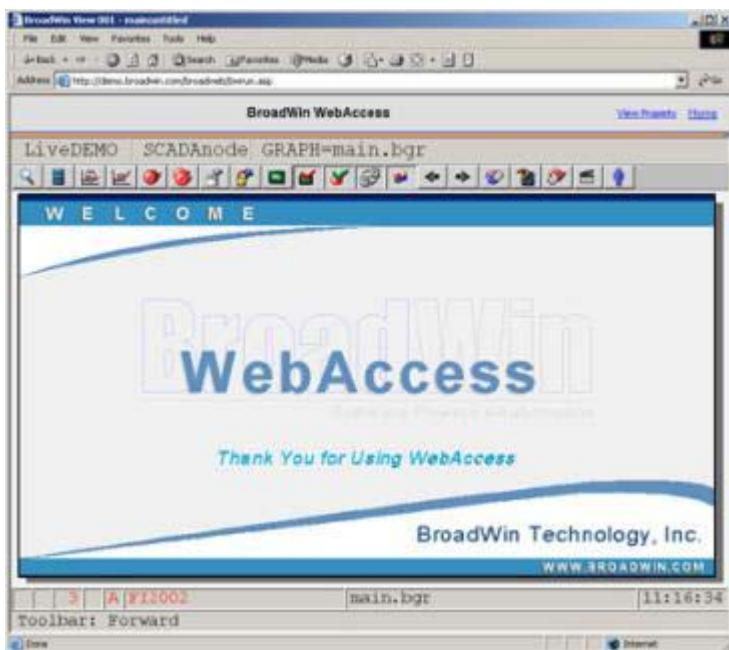

Figure 6.38 - default Main graphic display
8. The MAIN graphic display for your system appears. The default MAIN graphic supplied with WebAccess is shown below (Figure 6.38). Yours will probably look different